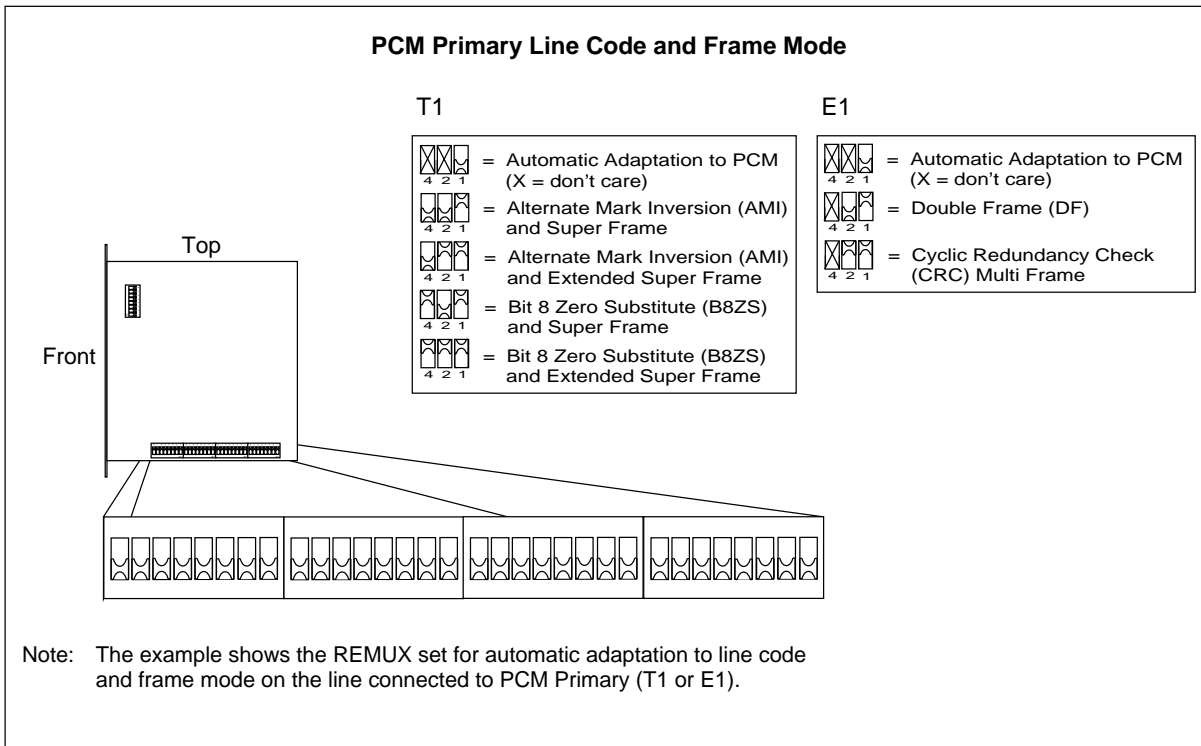

Figure 4-23. Setting for PCM Primary Line Code and Frame Mode
9. Set the PCM primary line code and frame mode, as shown in Figure 4-23 on page 4-40, in accordance with the *Configuration Data* in the *Site Installation Documentation*.